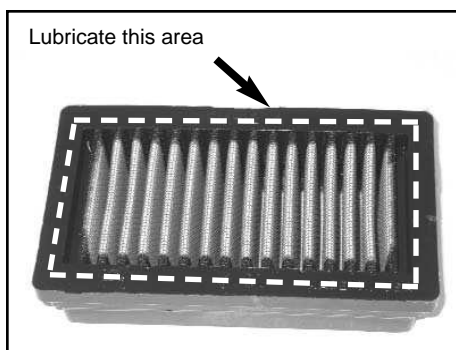

Fig. 1
3. Apply a thin layer of the provided K&N Sealing Grease to the K&N Filtercharger®. (Fig. 1)